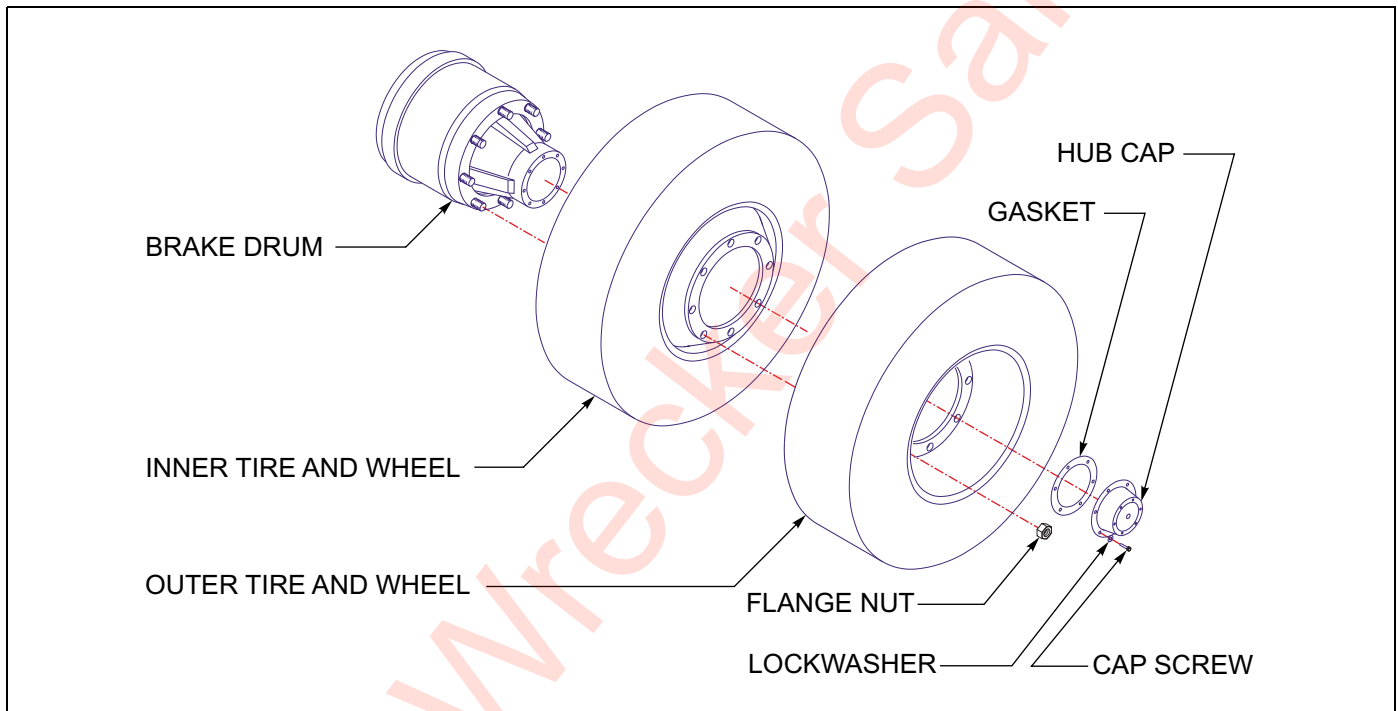

Figure 4-19: Mounting Tires and Wheels
1. Make sure that all mounting surfaces are clean and free of rust, dirt or paint. A wire brush may be used to clean these surfaces (**See Figure 4-19.**)
4. Install the flange nut and tighten to 50 foot-pounds using the sequence in (**Figure 4-19.**) Then tighten to full torque of 450 to 500 foot-pounds.